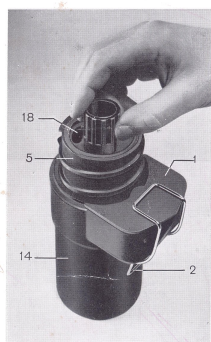

fig. 8
A thermometer can be introduced in the central hole of knob (4) or in (16). Warming or cooling water can be introduced in (18), figure 8. For instance, during summer this temperature equalizing bath is necessary to avoid shrinking effects on emulsion.
Rotate cylinder (5) fig. 8 - gently clockwise. The cylinder will enter gradually in the tank. At the end of the run resistance will be felt. Force gently. By this action the end of the film which was attached to the cartridge will be detached. We can now disengage hook (2), take off cover (1) and take out the empty magazine.